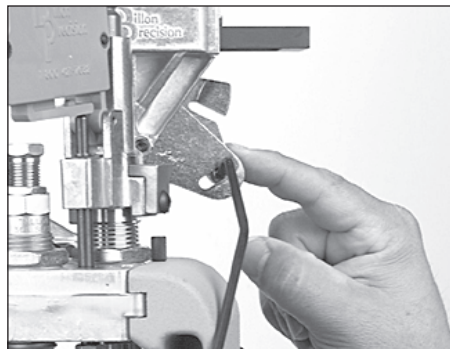

FIG 102
2. Insert the rod (#13629) through the holes FIG 102.
3. Loosen the blue plastic wing nut (#13799) FIG 102.